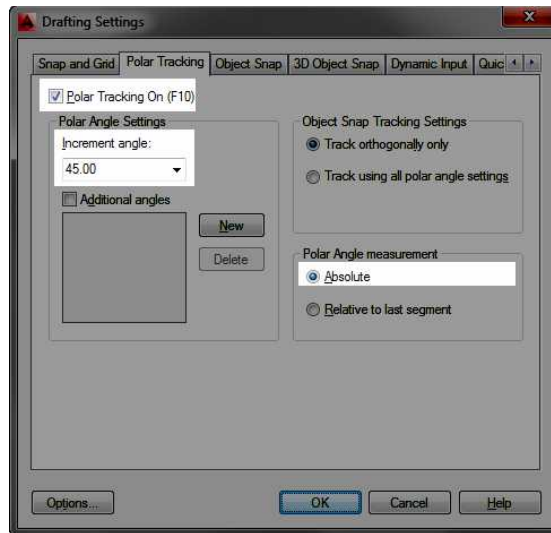

FIGURE 5.12: The Polar Tracking tab of the Drafting Settings dialog box
2. Right-click the Polar Tracking button on the status bar at the bottom of the screen, and then choose Tracking Settings from the context menu. The Drafting Settings dialog box opens. By default, the Polar Tracking tab is active (see Figure 5.12).